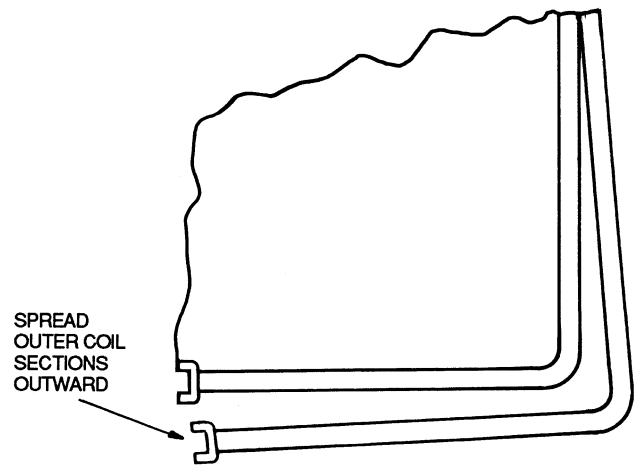

Fig. 17 — Coil Cleaning (Typical)
3. Remove clips securing tube sheets together at the return bend end of the coil. Carefully spread the ends of the coil rows apart by moving the outer sections. See Fig. 17.